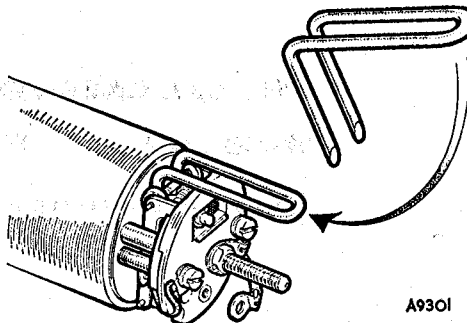

Fig. 7. Fitting the roller retaining fork
12. Press the centre of the armature and fit the retaining fork at the back of the rocker assembly (Fig. 7). This is done to prevent the rollers from falling out when the coil housing is placed on the bench prior to fitting the body, and is not intended to stretch the diaphragm before tightening the body screws.